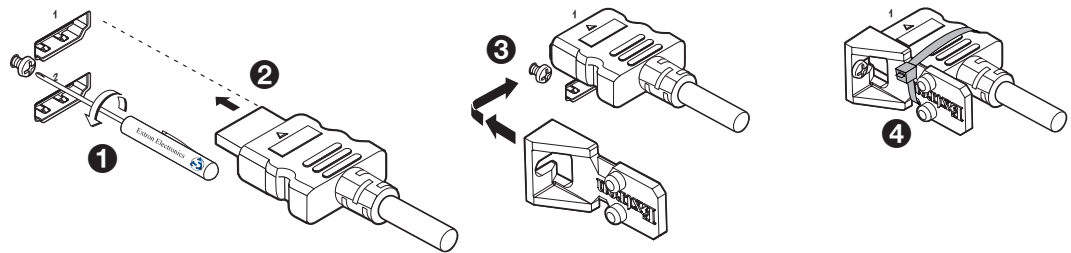

Figure 18. LockIt Cable Lacing Bracket Mounting Instructions
1. Loosen the side HDMI connection mounting screw (see figure 18, **1**) so there is enough space between the device and the screw head to fit the cable lacing bracket. Do not remove the screw from the device.